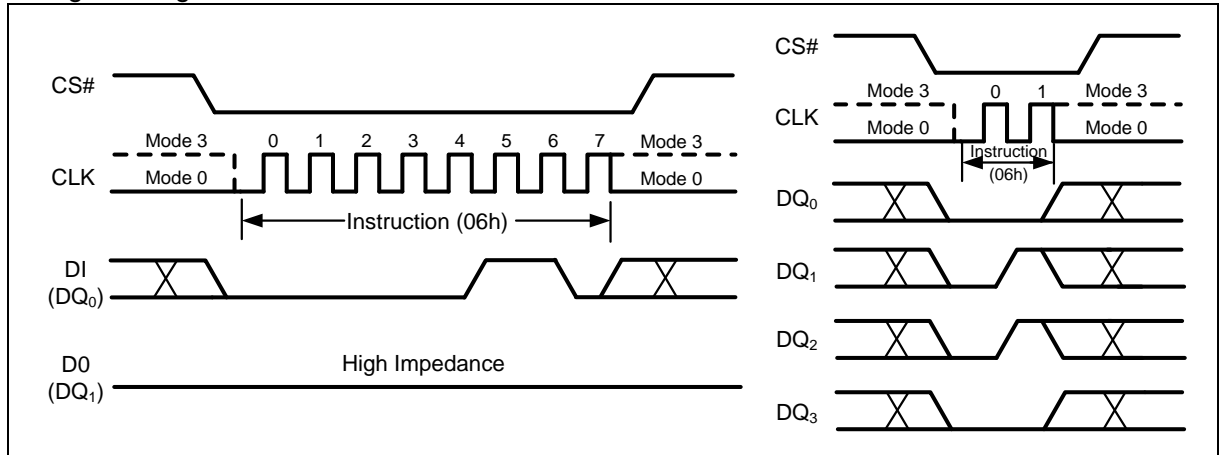

Figure 7 Write Enable Instruction for SPI Mode (left) or QPI Mode (right)
Instructions vary in length from a single byte to several bytes and may be followed by address bytes, data bytes, dummy bytes (don't care), and in some cases, a combination. Instructions are completed with the rising edge of edge CS#. Clock relative timing diagrams for each instruction are included in Figure 7 through Figure 66. All read instructions can be completed after any clocked bit. However, all instructions that Write, Program or Erase must complete on a byte boundary (CS# driven high after a full 8-bits have been clocked) otherwise the instruction will be ignored. This feature further protects the device from inadvertent writes. Additionally, while the memory is being programmed or erased, or when the Status Register is being written, all instructions except for Read Status Register will be ignored until the program or erase cycle has completed.
The Write Enable (WREN) instruction (Figure 7) sets the Write Enable Latch (WEL) bit in the Status Register to a1. The WEL bit must be set prior to every Page Program, Quad Page Program, Sector Erase, Block Erase, Chip Erase, Write Status Register and Erase/Program Security Sectors instruction. The Write Enable (WREN) instruction is entered by driving CS# low, shifting the instruction code “06h” into the Data Input (DI) pin on the rising edge of CLK, and then driving CS# high.